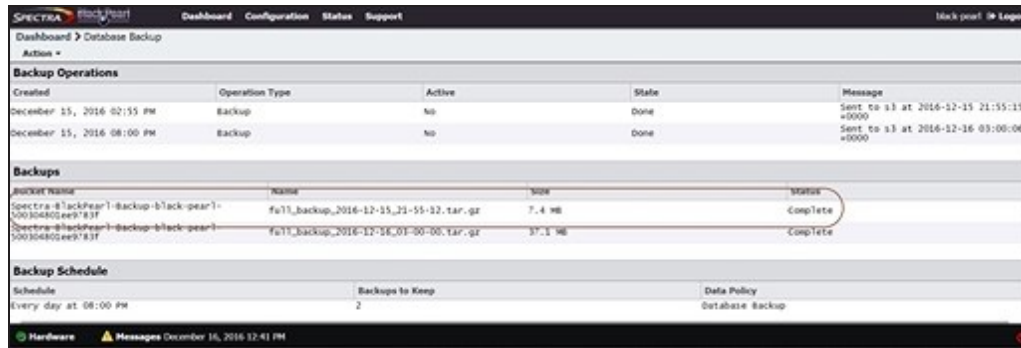

Figure 197 The Database Backup screen.
1. From the menu bar, select **Configuration > Database Backup**. The Database Backup screen displays (see Figure 197 on page 272).